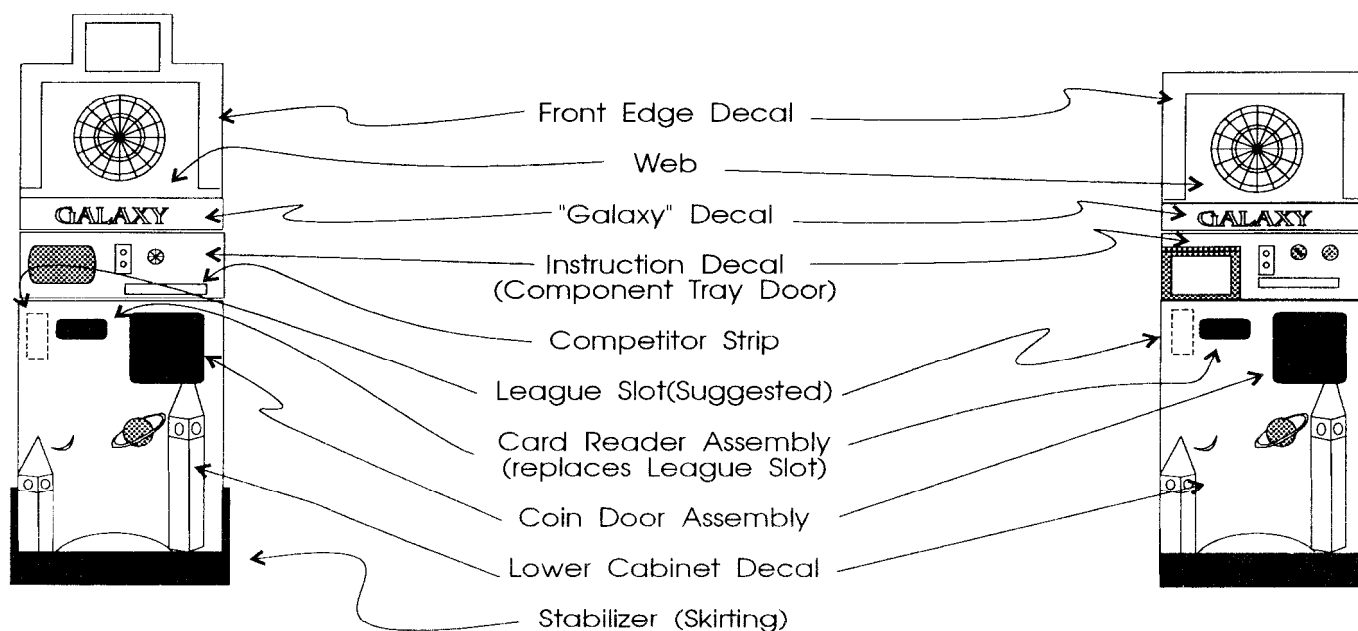

Fig. 4. Model 6300T — 110V monitor atop darthead
Before applying the new decal, clean the old decal with isopropyl alcohol. Peel the adhesive backing from the "Game Instructions" decal. Place the decal on top of the "Games List" over the monitor and press into position. (See Fig. 4).
2. Peel adhesive backing from front decal (the decal with "Games List," see Fig. 4). Align switch and
- 2A. If you want to re-mount the league envelope slot (your option), cut a hole in the cabinet using the template provided in the kit. See Fig. 4 for suggested location.
3. **On 6300T only:** Remove the stabilizer (skirting) from the bottom of the cabinet (See Fig. 4). The stabilizer is secured to the cabinet with three screws on each side, and three on the front. Before applying the new decal, clean the old decal with isopropyl alcohol.